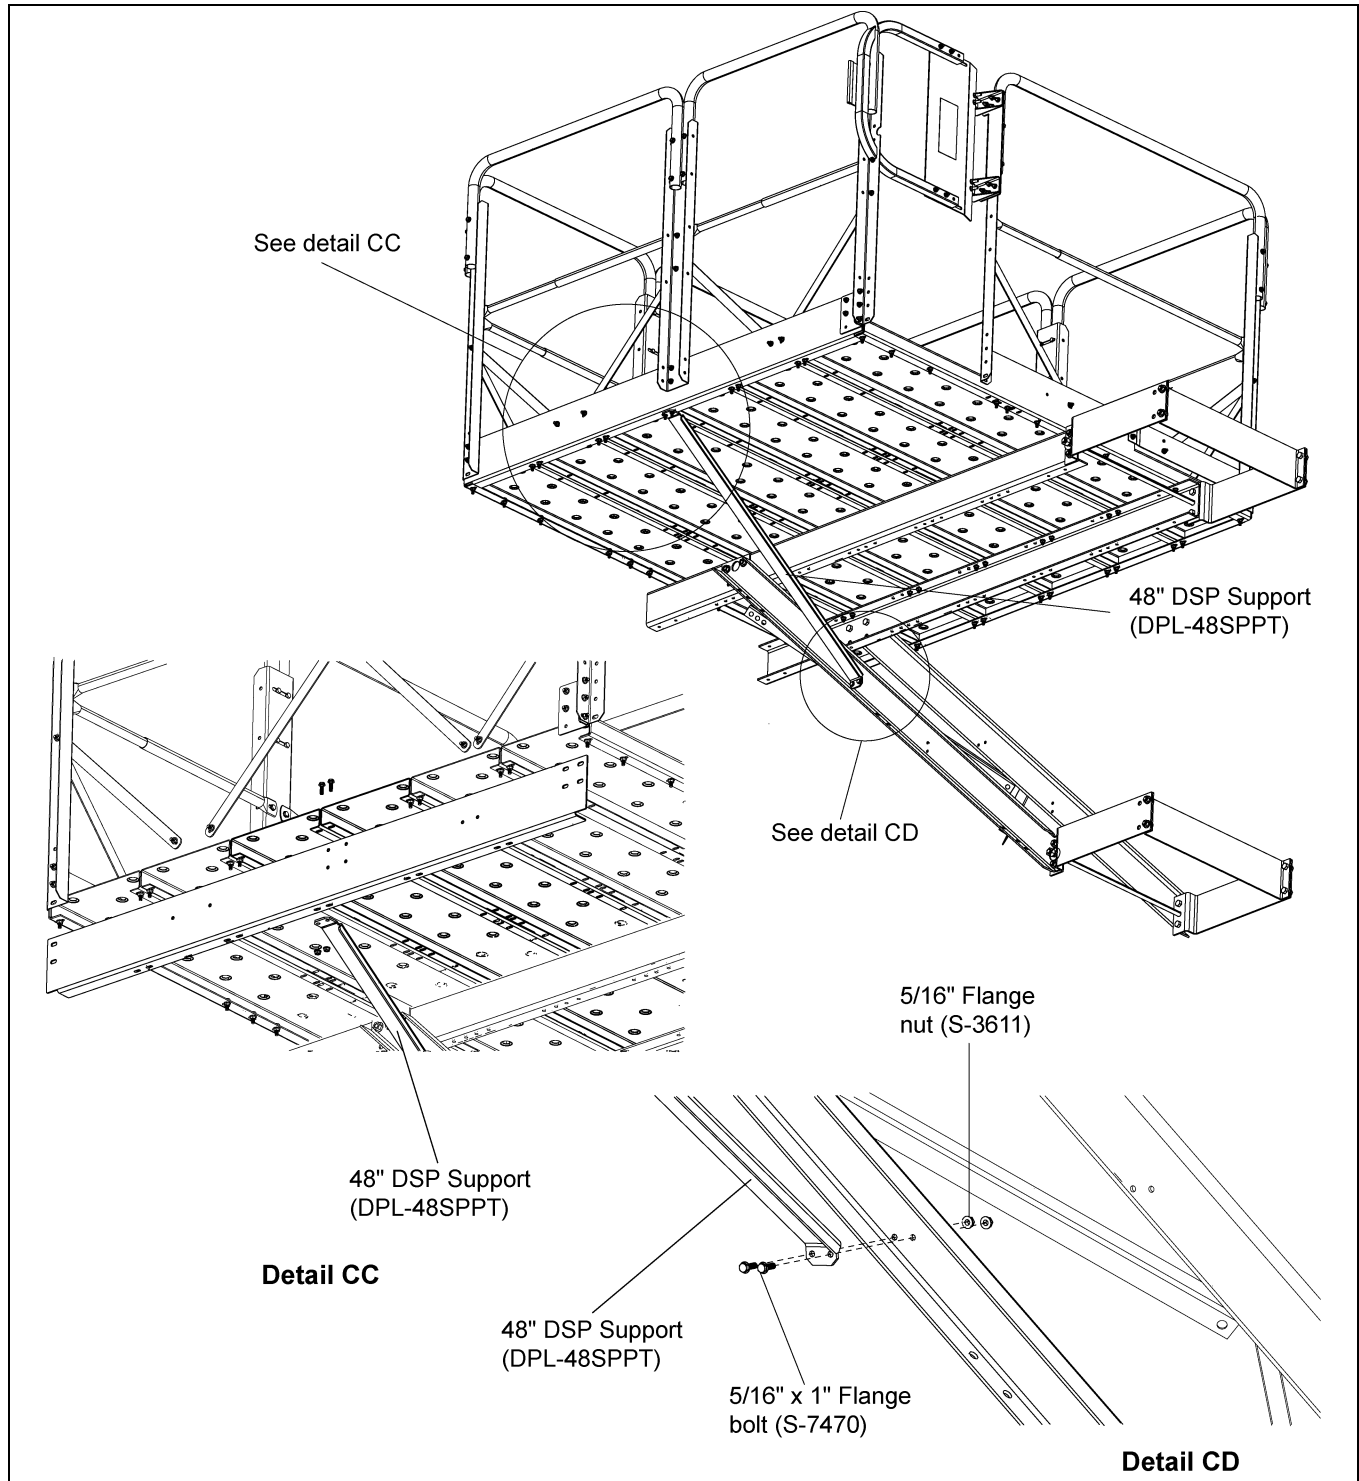

Figure 10T
3. Use 5/16" x 1" flange bolt (S-7470) and 5/16" flange nut (S-3611) for all connections. (See Figure 10T.)